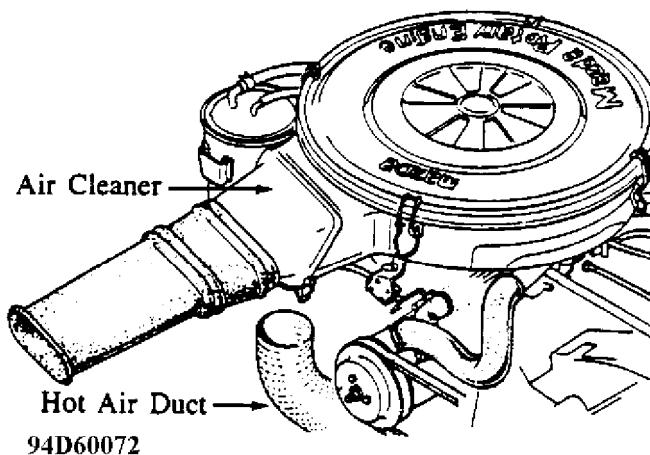

Fig. 6: Hot Air Duct Location
1. Remove the hot air duct. See Fig. 6.